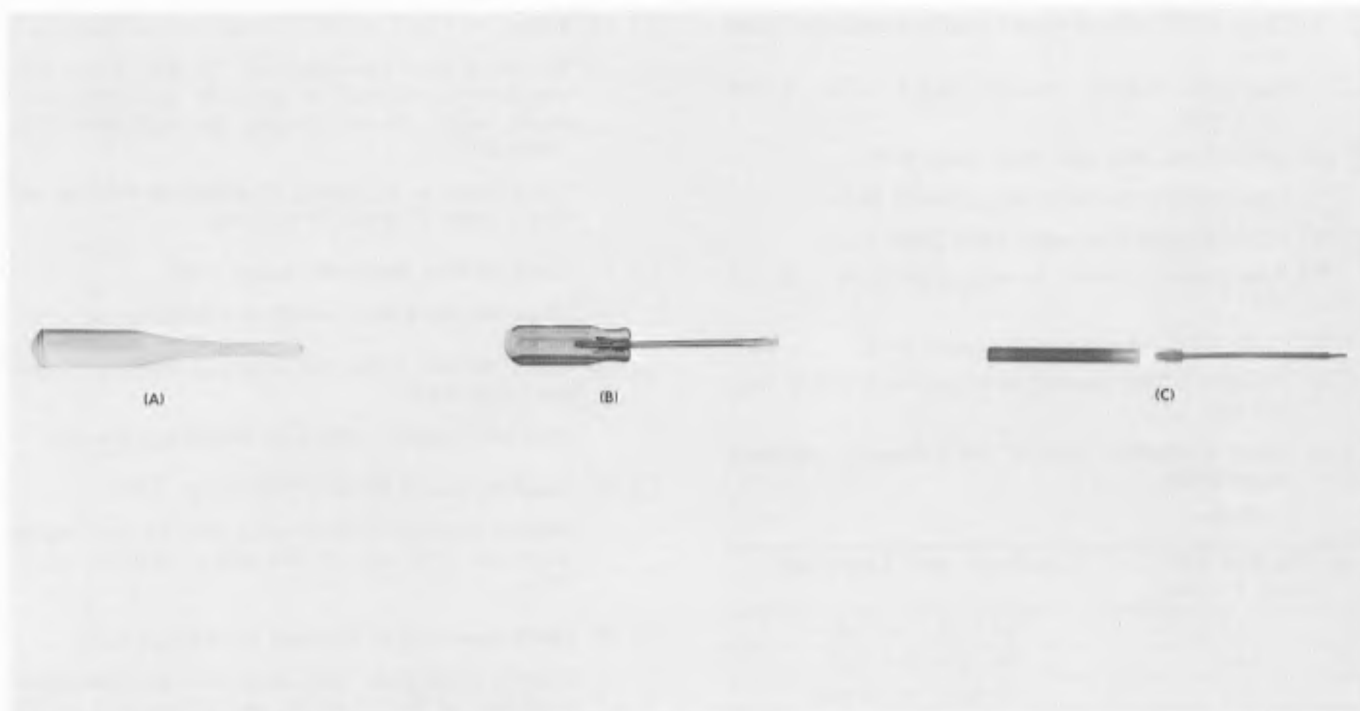

Fig. 6-2. Adjustment tools.
17. Adjustment tools (see Fig. 6-2).